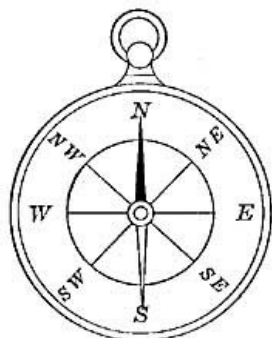

FIG. 221.—The compass.
**304.** In the twelfth century, there was introduced into Europe from China a simple instrument which changed journeying on the sea from uncertain wandering to a definite, safe voyage. This instrument was the compass (Fig. 221), and because of the property of the compass needle (a magnet) to point unerringly north and south, sailors were able to determine directions on the sea and to steer for the desired point.